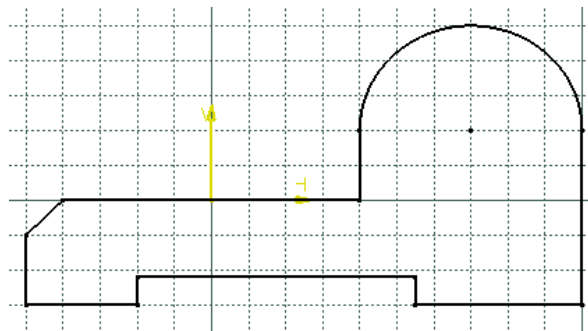

Figure 2-60 The completed outer loop of the sketch
- Draw the sketch of the model using the **Line**, **Arc**, and **Circle** tools, refer to Figures 2-60 and 2-61.
22. Choose the **Fit All In** button from the **View** toolbar to fit the current sketch into the screen. The completed outer loop of the sketch is shown in Figure 2-60. Note that in this figure, the display of constraints and dimensions is turned off using the **Hide/Show** tool for clarity.